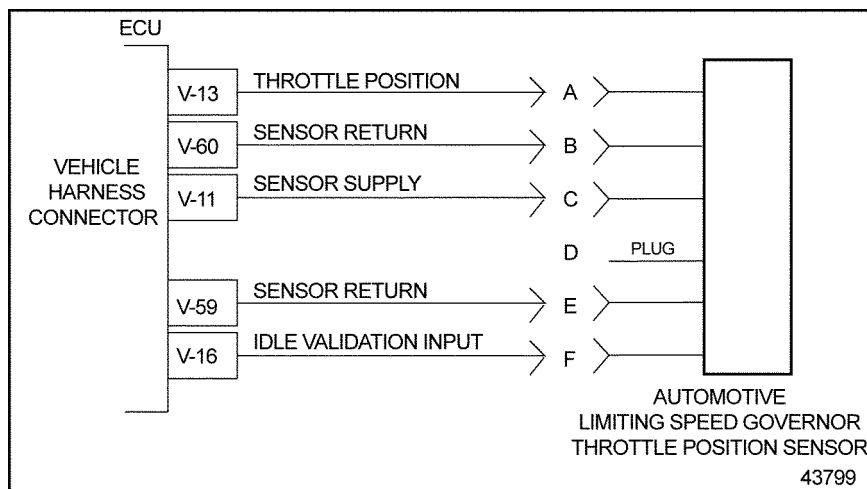

Figure 26-2 Throttle Position Sensor
4. Measure resistance between sockets V-60 and V-13 on the vehicle harness connector. For Throttle Position Sensor schematic, See Figure 26-2.